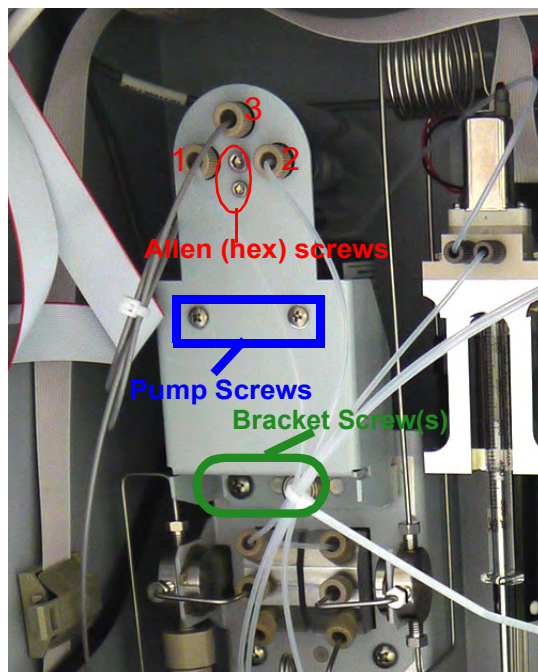

Figure 76: ICR Bracket
4. Remove the three knurled-nut tube connectors (1, 2, and 3 in Figure 76) from the degasser. (Note the orientation of the tubing for the reassembly process.)
6. Use a Phillips-head (cross-head) #1 screwdriver to remove the bracket screw (or two side-by-screws) (Figure 76) securing the ICR bracket to the Analyzer.
7. Remove the two pump screws (Figure 76) in the center of the ICR bracket to release the pump.